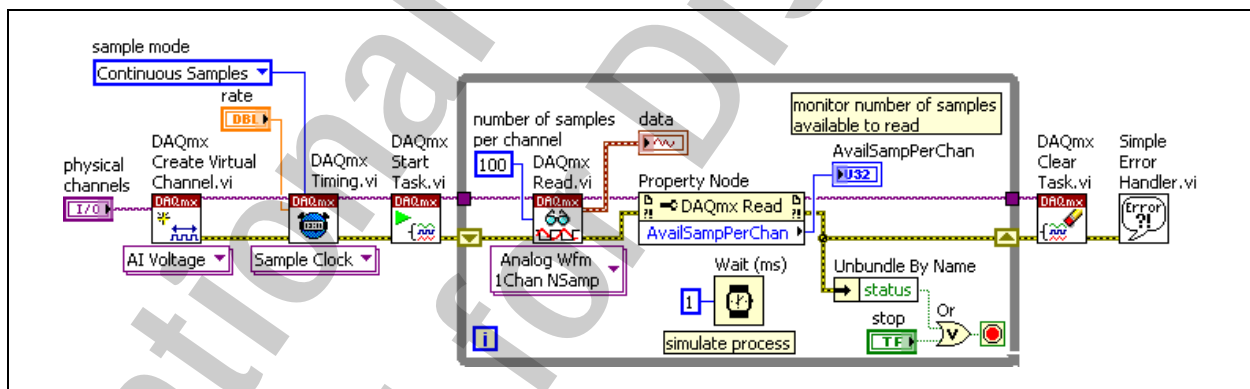

Figure 3-10. Continuous Buffered Acquisition VI Block Diagram
3. Create the block diagram to perform a continuous buffered acquisition, as shown in Figure 3-10, using the following items: